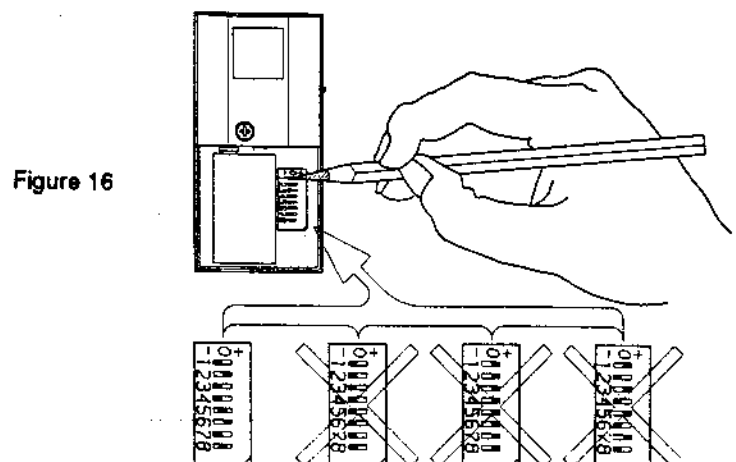

Figure 16
Remote controls consist of a transmitter and a receiver. The transmitter sends a coded security signal. The receiver is incorporated in the powerhead electronics. It receives a signal to initiate a door cycle. The transmitter is equipped with a small external switch on the side of the transmitter case (See Figure 16). This switch has two positions to access two control channels.
- b) Set your own code by changing the position of the switches numbered 1 to 8 on the code switch block (Figure 16).